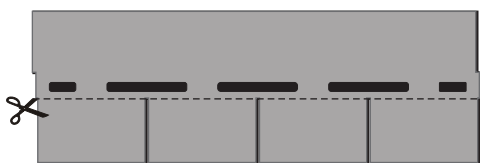
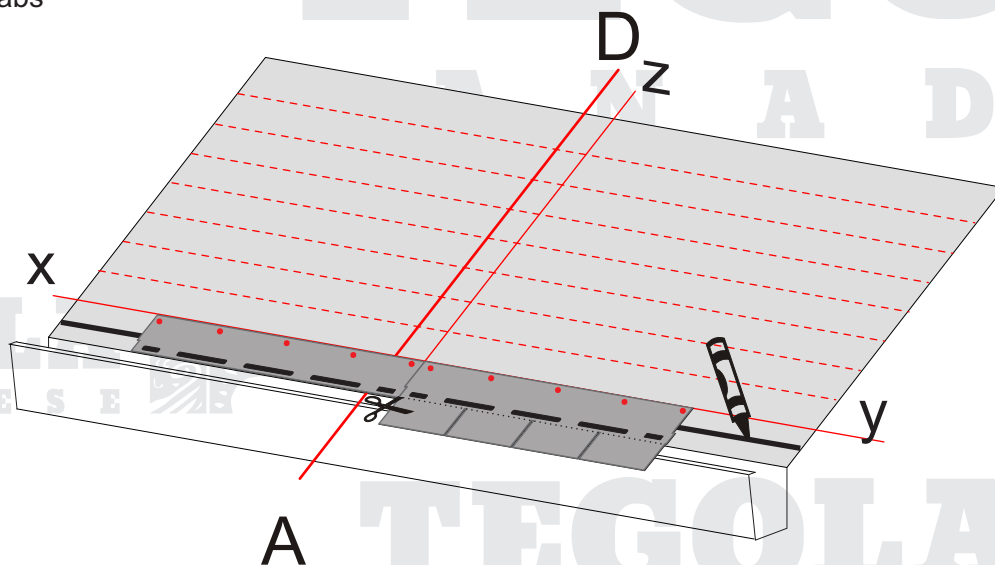

Fig. 2 Trimming the tabs
Fig. 3 - Installation of the starter course
- " Apply a line of bituminous mastic "Bitustick" along the eaves (Fig. 3); trim the tabs from the bituminous shingle to form the starter course (Fig.2) and align it to z the line (see Fig.3).